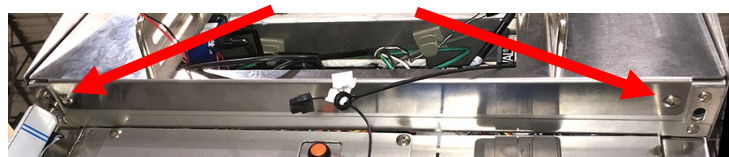

Figure 11
- m. Remove the bezel by removing the two screws on the bottom of the bezel, starting with the screw closest to the door first, so the bezel can rest on the door (see Figure 11).